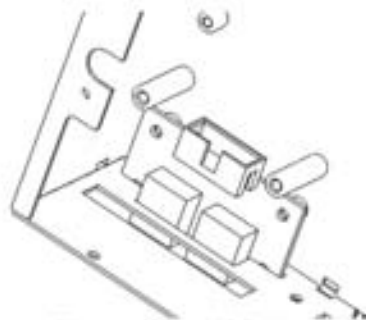

Figure 1.1, USB board
2) If not already installed, fasten the USB board to the enclosure using two M3 screws. See Figure 1.1. Use the flat ribbon 2x5 IDC connector to connect to the internal M/B header. Please note that if connector is installed backwards into the motherboard header, the M/B might not be able to start or the front USB connector will malfunction. Simple re-install the header in the opposite direction and the system will be OK.